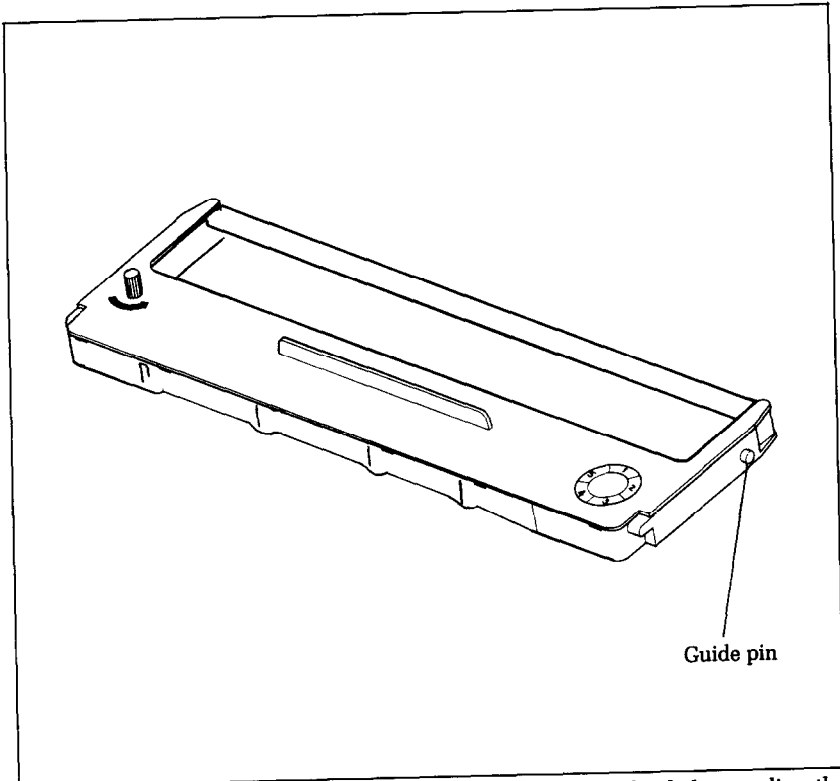

Figure A-5. A guide pin on each side of the ribbon cartridge helps to align the cartridge during installation.
3. Note the position of the guide pins on the cartridge as shown in Figure A-5. Then hold the cartridge at each end, with the ribbon facing away from you, and insert the guide pins into the cut-out hooks of the printer frame. You'll find this easier if you tilt the cartridge forward as you do this, as Figure A-6 shows.